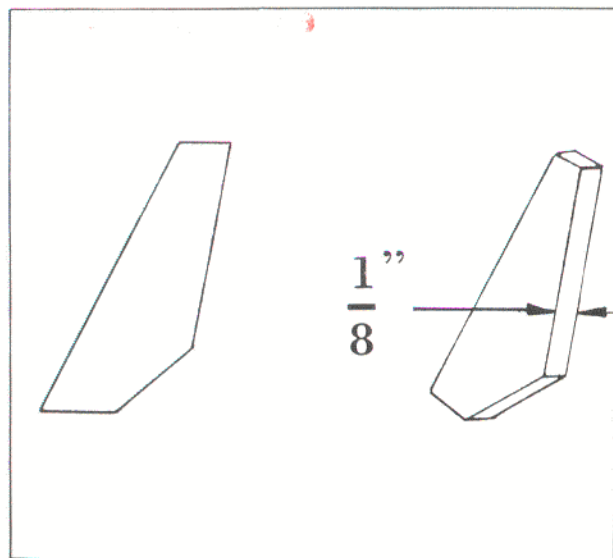

Fig. 4
1. From  $\frac{1}{8}$  inch steel stock, cut out two (2) reinforcements using the template shown in Figure 4.